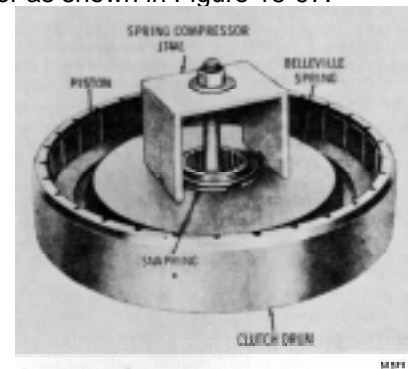

Figure 15-97. Compressing Fifth-and Sixth-Gear Clutch Spring
2. Install compressor tool J-7441 or other suitable compressor as shown in Figure 15-97.
5. Install compressor tool J-7441 or other suitable compressor as shown in Figure 15-97.